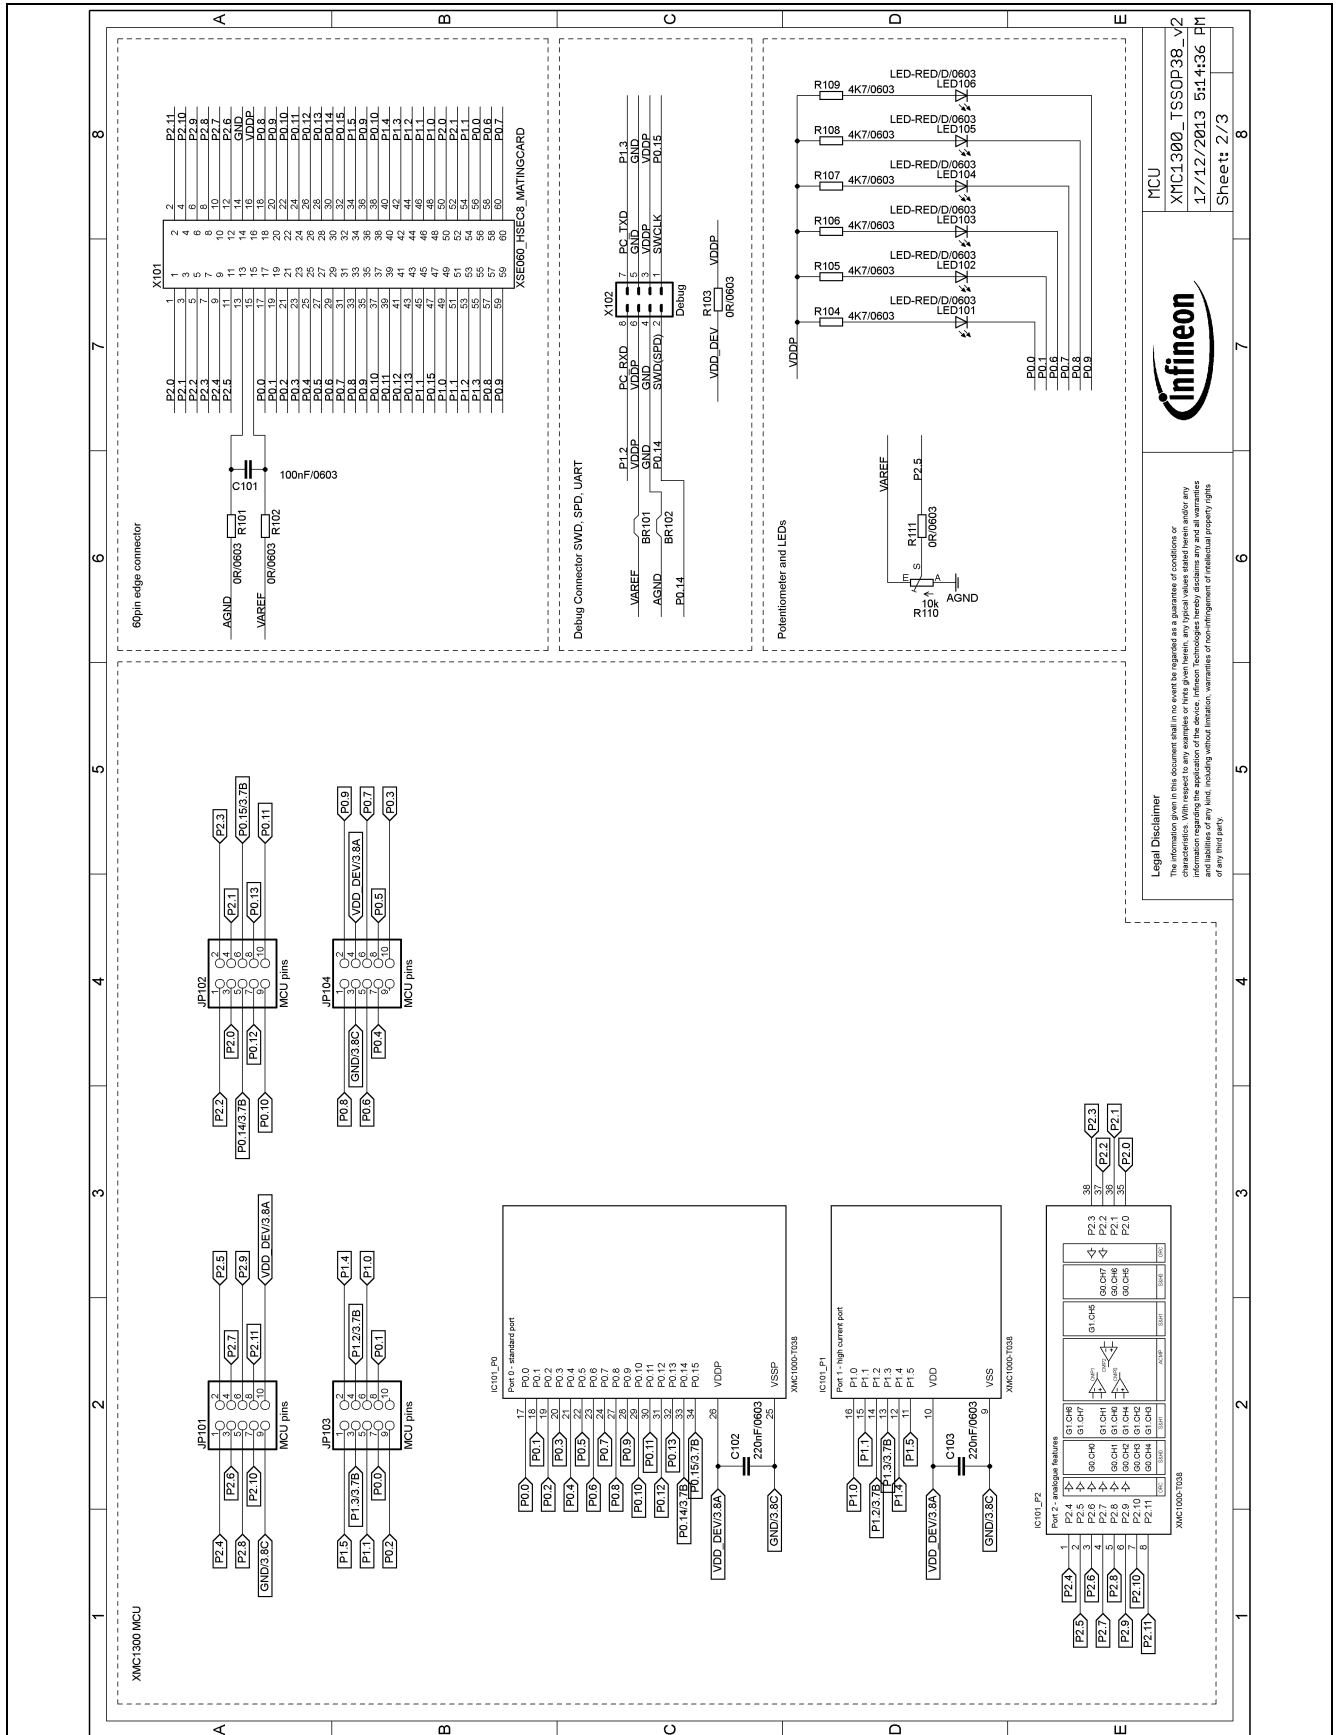

Figure 7 Schematic 1 of 2 XMC1300 CPU Card
- Figure 7: CPU, Pin Headers, Potentiometer and LED and 60pin Edge connector